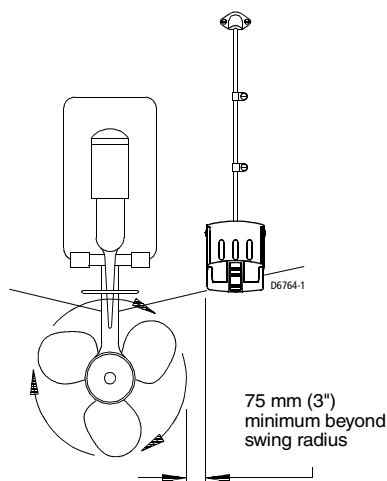

Figure 2-7: Mounting Location on Single Drive Boat
- **Single drive boat**—Mount the transducer on the starboard side at least 75 mm (3") beyond the swing radius of the propeller (see *Figure 2-7*).